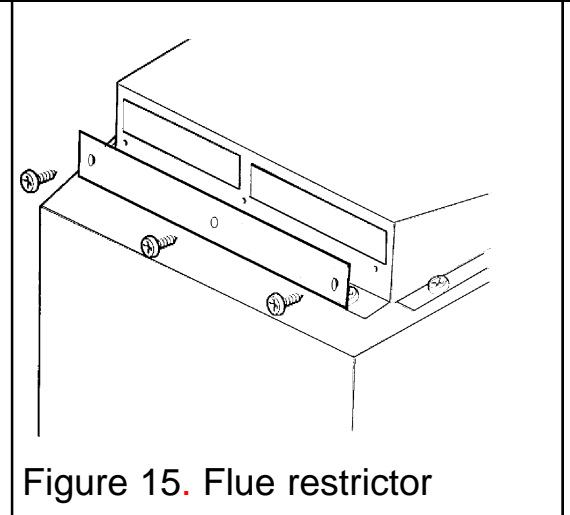

Figure 15. Flue restrictor
9. The restrictor is packed loose with the appliance and is fixed with three screws (See figure 15).